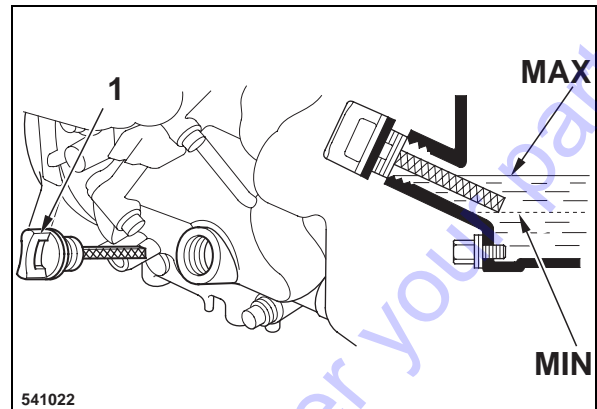

Fig. 34
- The oil level must reach the bottom edge of the filler bore (Fig. 34), top up if necessary.
- Push the oil dipstick (1) back in.